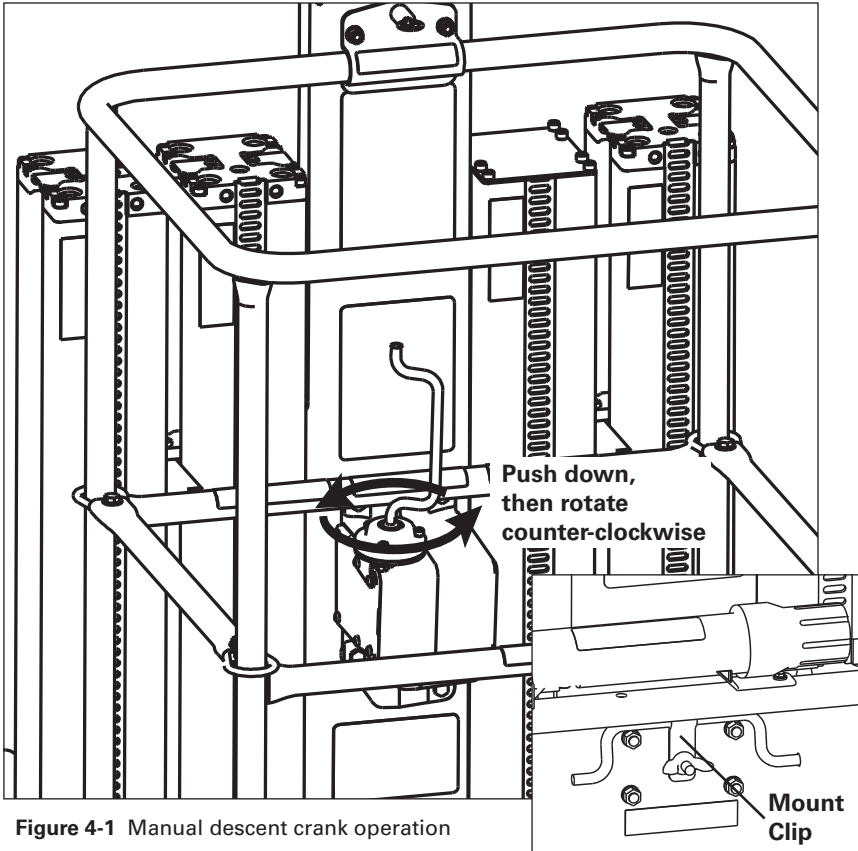

Figure 4-1 Manual descent crank operation
5. Push down on the top of the handle to disengage the drive shaft brake and wind counterclockwise until the platform lowers to the fully lowered position. (See Figure 4-1)